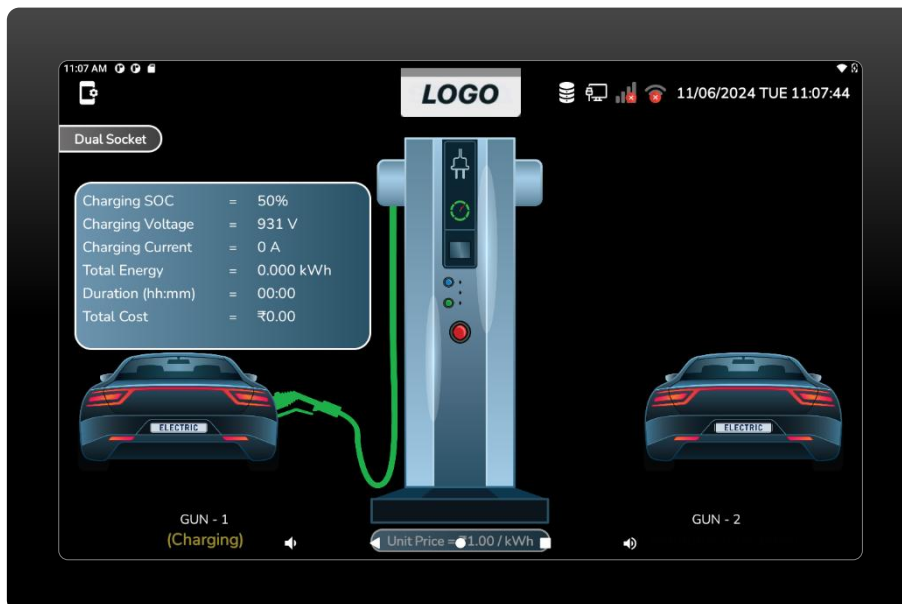

Figure 62 Single Gun Ongoing Charging Process.
- After successfully user authentication, the user can view ongoing charging process from the dashboard with brief information about the ongoing charging process. (Figure 62)